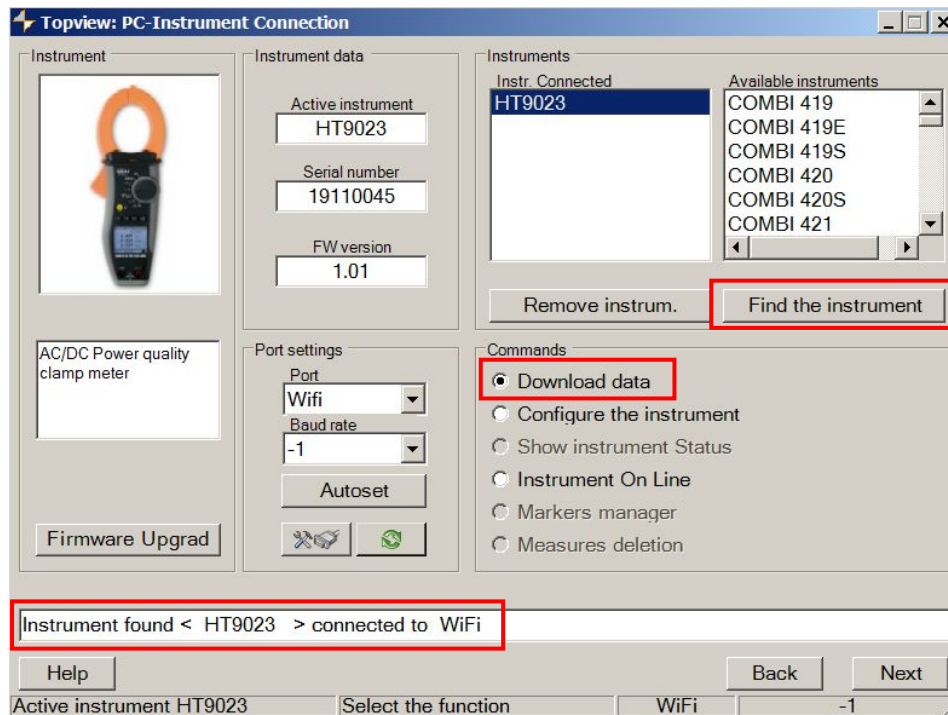

Fig. 16: Instrument detection inside software TopView
- Launch the TopView software, open the "PC-Instrument connection" section, run the "Find the instrument" command and check recognition (see Fig. 16)